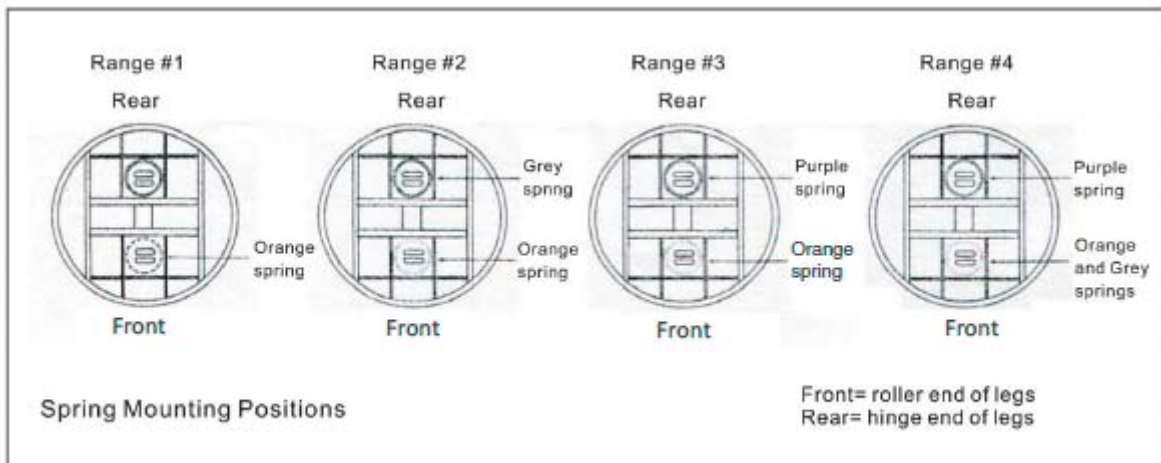

Fig. 7. Spring Mounting Positions
3. Fig. 7. shows the position of additional springs if needed. Double-check to be sure you have the correct springs. Refer to Table 1 on page 5 and see that you have the correct springs for your application.